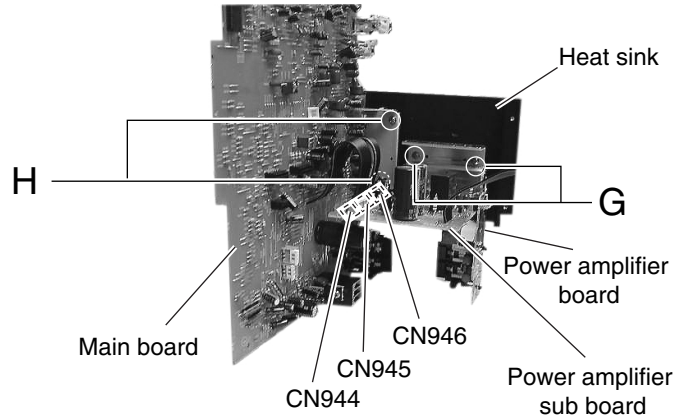

Fig. 17
**Removing the power amplifier board / power amplifier sub board / heat sink (See Fig. 17)**
**Removing the heat sink (See Fig. 17)**